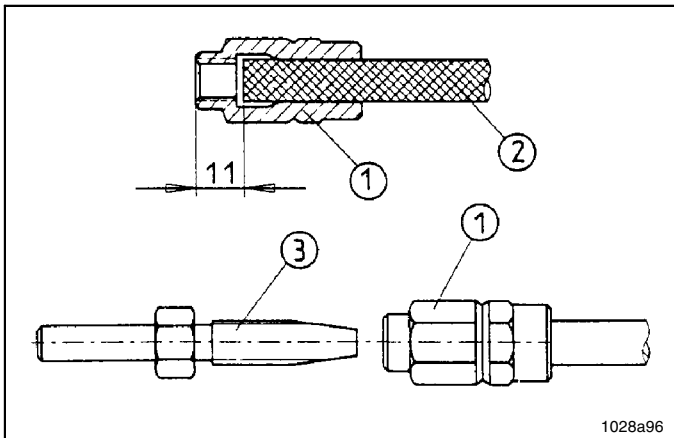

Fig. 49 Pre-assembly of the threaded sleeves and hose studs onto the main line
- Screw threaded sleeve (1, fig. 49) counterclockwise onto the high-pressure plastic hose (2) until the illustrated dimension of 11mm is reached. Then screw the hose stud (3) into the threaded sleeve (1).